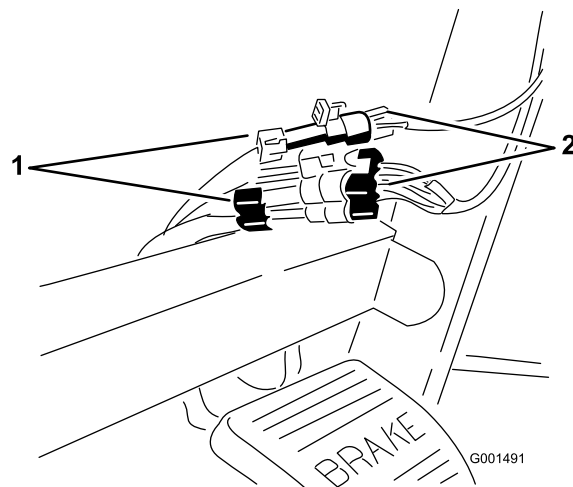

Figure 7
- Connect the Spray Pro wire connectors to the wire connectors located under the dash (Figure 7).